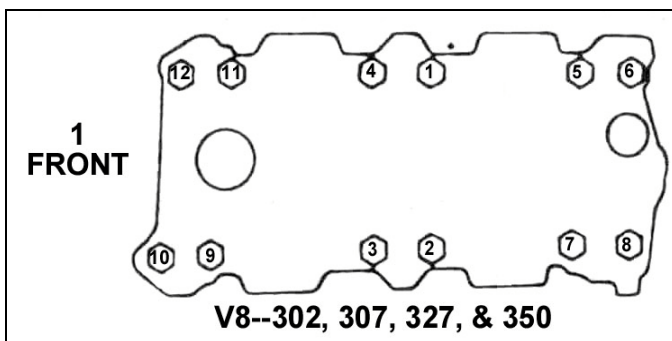

Figure 4
24. Tighten bolts to 15 ft./lbs. and progress to 25 ft./lbs. in 5 ft./lbs. increments, noting the torquing sequence in Figure 4. Retighten the valve cover.